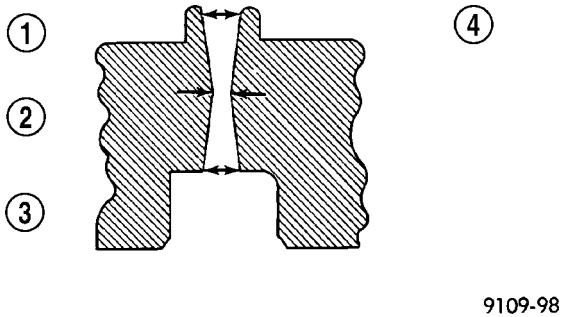

Fig. 15 Checking Wear on Valve Guide—Typical
(3) Remove carbon and varnish deposits from inside of valve guides with a reliable guide cleaner.
(4) Using a small hole gauge and a micrometer, measure valve guides in 3 places top, middle and bottom (Fig. 15). (Refer to 9 - ENGINE - SPECIFICATIONS) Replace guides if they are not within specification.